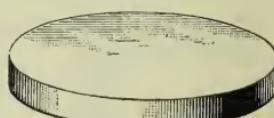

FIG. 34
**48.** A **solid flange** is shown in Fig. 34. This is sometimes called a **blind plate**, or **blind flange**. It is made of cast iron and is used principally for closing the ends of flanged pipes, etc. Holes are drilled to correspond with the holes in the pipe flange, and the solid flange is secured with bolts and a gasket. Plain flat flanges are generally used up to 18 inches in diameter. For larger sizes, ribbed solid flanges are used. The ribs are cast on to strengthen the flat plate.